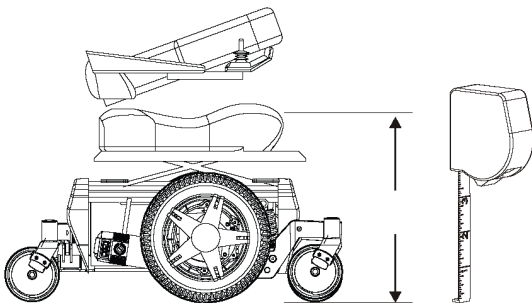

Figure 5-2
1. Measure the seat to ground height. *See Figure 5-2.*